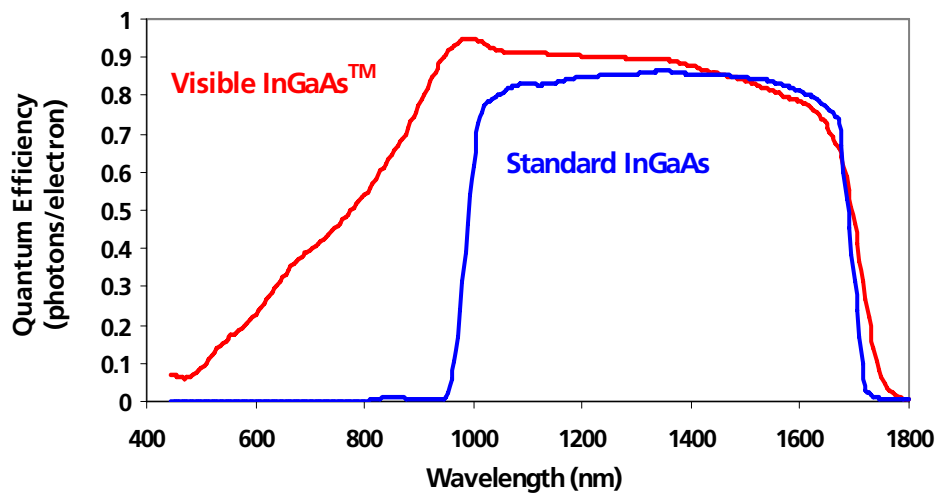
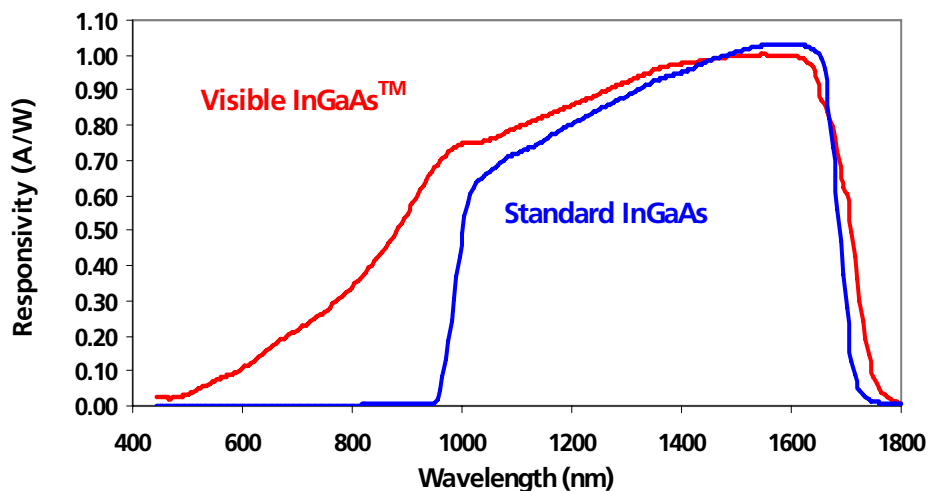

Figure 5. Typical quantum efficiency of SUI backside illuminated FPAs.
Figure 6. Typical responsivity of SUI backside illuminated FPAs.
The SU320KTS-1.7RT camera uses SUI's SU320AMS-1.7T1 indium gallium arsenide (InGaAs) focal plane array (FPA). This FPA has 320 x 256 pixels on a 25 μm pitch. This FPA consists of an InGaAs photodiode array hybridized to a CMOS readout using indium bump bonds. The photodiode array is a backside illuminated device (where light first passes through the substrate before being absorbed) with typical quantum efficiency (QE) and responsivity shown in Figure 5 and Figure 6, respectively. For visible InGaAs, the substrate is thinned to allow shorter wavelength light to reach the light sensitive region of the photodiode.